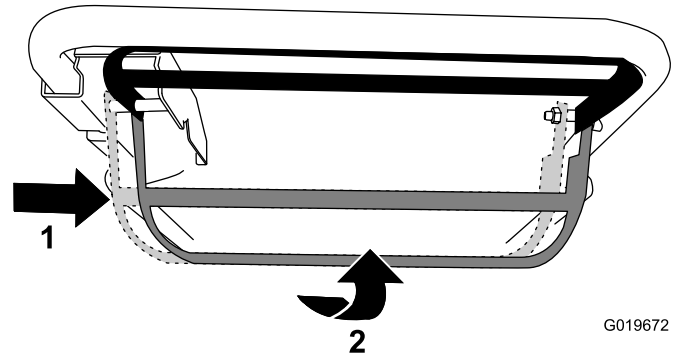

Figure 21
- To operate the self-propel drive and engage the blades, slide the control bar all the way to the right and raise it to the handle (Figure 21).